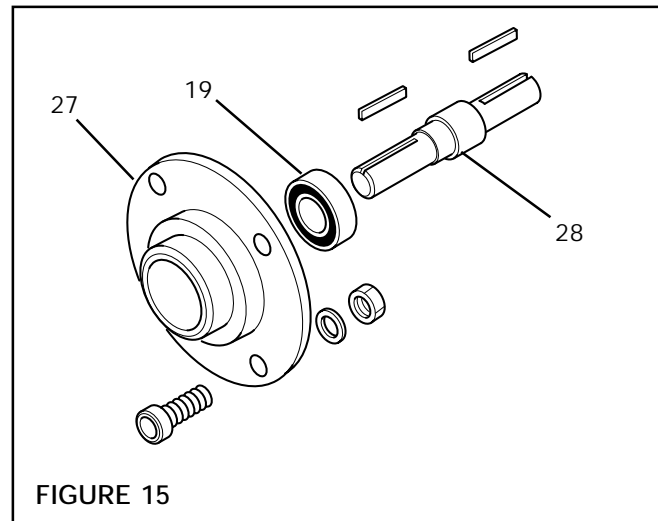

FIGURE 15
2. Fully supporting Input Unit, press Shaft (Item 28) out of Input Unit (See Fig. 15).
3. Using a bearing puller, remove Bearing (Item 19) from input Flange (Item 27) (See Fig. 15).
4. Carefully align O.D. of new bearing with bore of Input Flange (Item 27) and press new bearing into place (See Fig. 15).
5. Press Input Shaft (item 28) into Input Unit (See Fig. 15).